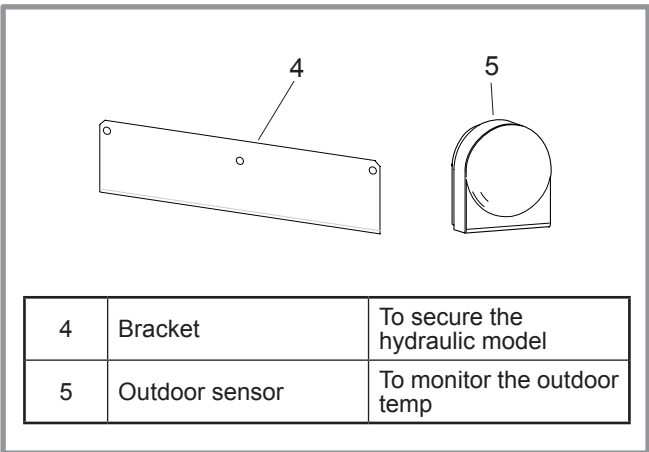

figure 10 - Accessories provided with the hydraulic unit
- Accessories provided with the hydraulic unit (figure 10).